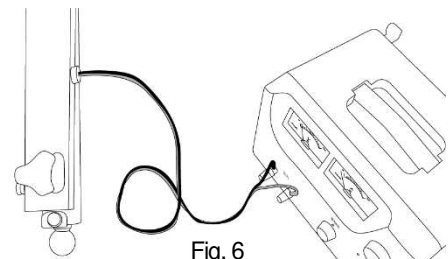

Fig. 6
1. Prepare a DC power supply and make sure it is switched off. Connect the built-in lead wires of Ball launcher (each of the red one and black one) to the DC power supply (see Fig. 6 on the right).